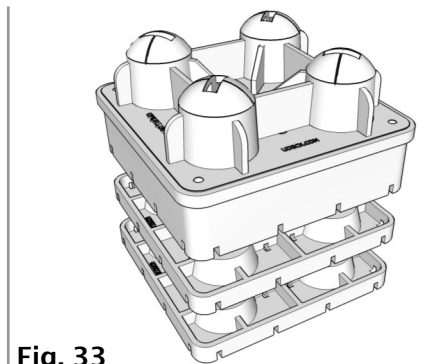

Fig. 33
- 15.** 1" Shims (G) and a 3" Riser (H) can be used in conjunction with each other. **ALWAYS** place the 1" Shim or Shims (G) below the 3" Riser (H). **NEVER** use more than 2 Shims (G) with any Riser (H) (Fig. 33)